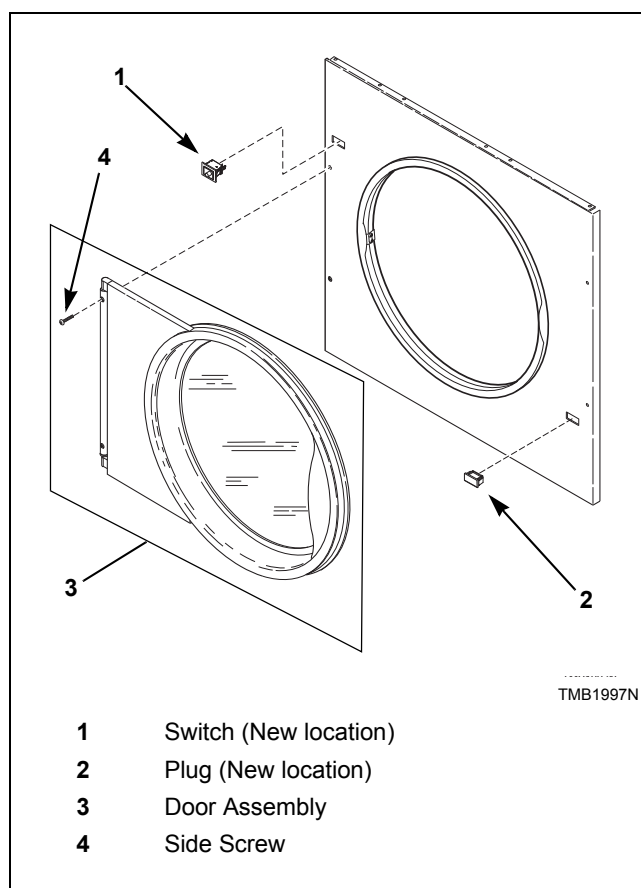

Figure 9
8. Place front panel on machine, loosely attach four bottom screws. Connect door switch harness to switch in new location. Install door assembly and four front panel side screws loosely. Refer to *Figure 9*.